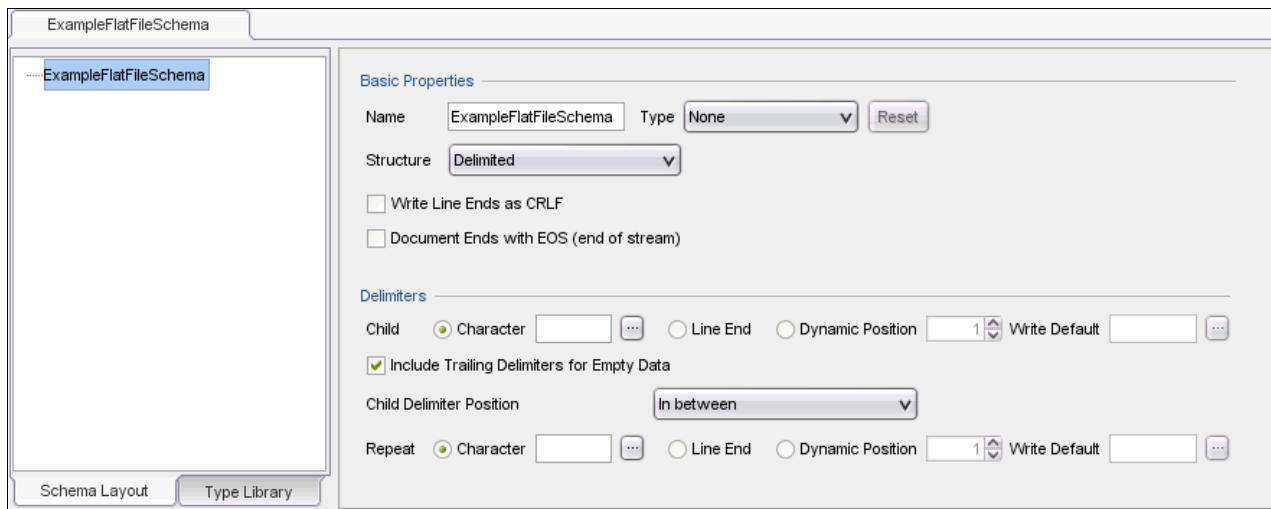

Figure 3-102 The Flat File Schema editor for schema ExampleFlatFileSchema
- Enter a name, and click **OK**. The Flat File Schema editor opens in the workspace, as shown in Figure 3-102.
The Flat File Schema editor also contains a testing tool that is displayed in Studio below the panes shown in Figure 3-102. This tool is described in 3.12.2, “Test Flat File Schema” on page 160.
The name of the Flat File Schema in Figure 3-102 is ExampleFlatFileSchema. The white pane on the left of the Flat File Schema editor is the Schema Layout pane. A new schema contains only one node in its Schema Layout which is the *Root Node*. Every Flat File Schema has exactly one Root Node. In Figure 3-102, the Root Node is called ExampleFlatFileSchema. The Root Node is given the same name as the Flat File schema by default, but you can change this name using the node properties.
The properties for each node that is selected in the Schema Layout pane displays on the right of the Flat File Schema editor. In Figure 3-102, the Root Node is selected. So, the properties that display are for the Root Node.